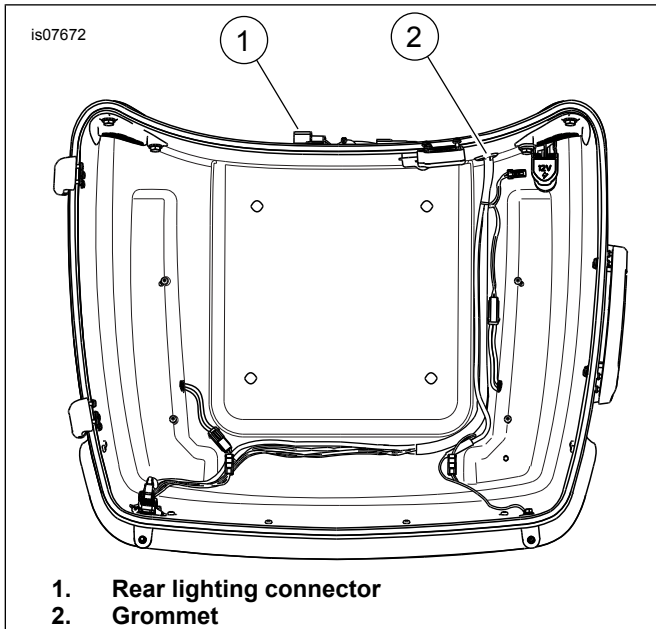
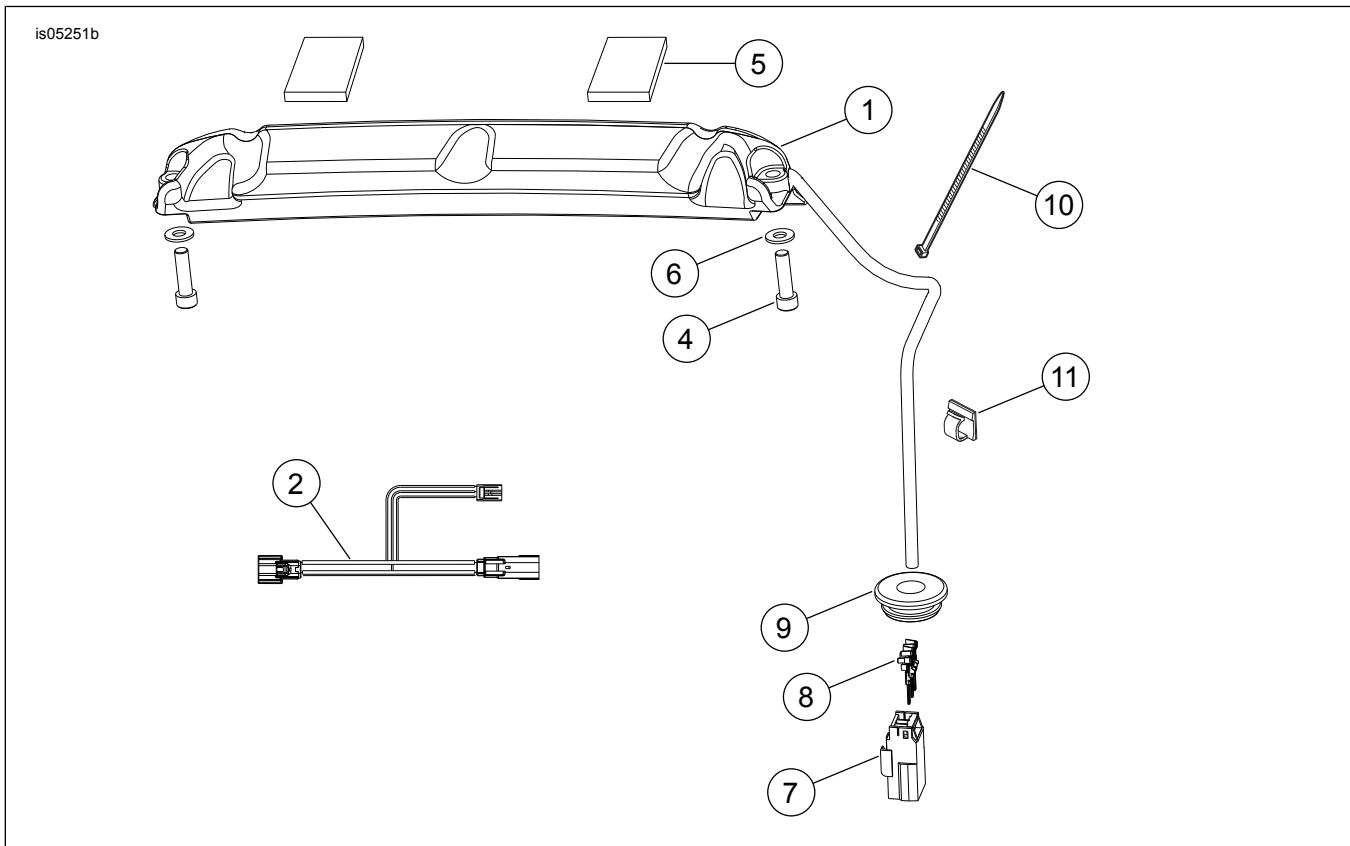

Figure 2. Tour-Pak Lighting Connector
Figure 3. Service Parts: Tour-Pak Rack Light Kit
See Figure 3 and Table 1.
6. See Figure 3 and Table 1. Apply foam pads (5) to top surface of light.
7. Secure light (1) to rack with socket head screws (4) and washers (6).
12. See Figure 2. Connect light assembly connector to rear lighting connector (1).
13. Remove grommet (2) from Tour-Pak.
16. See Figure 3. Refer to the Service Manual electrical appendix to install terminal pins (8) to rack light wires and install terminals to three pin housing (7) as follows: